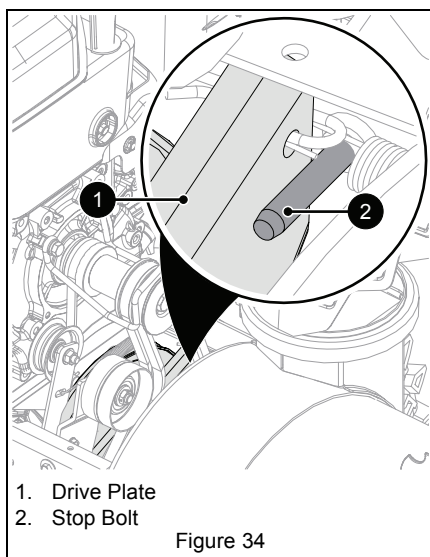

Figure 34
4. With traction clutch disengaged, check that the drive plate touches the stop bolt. See Figure 34.